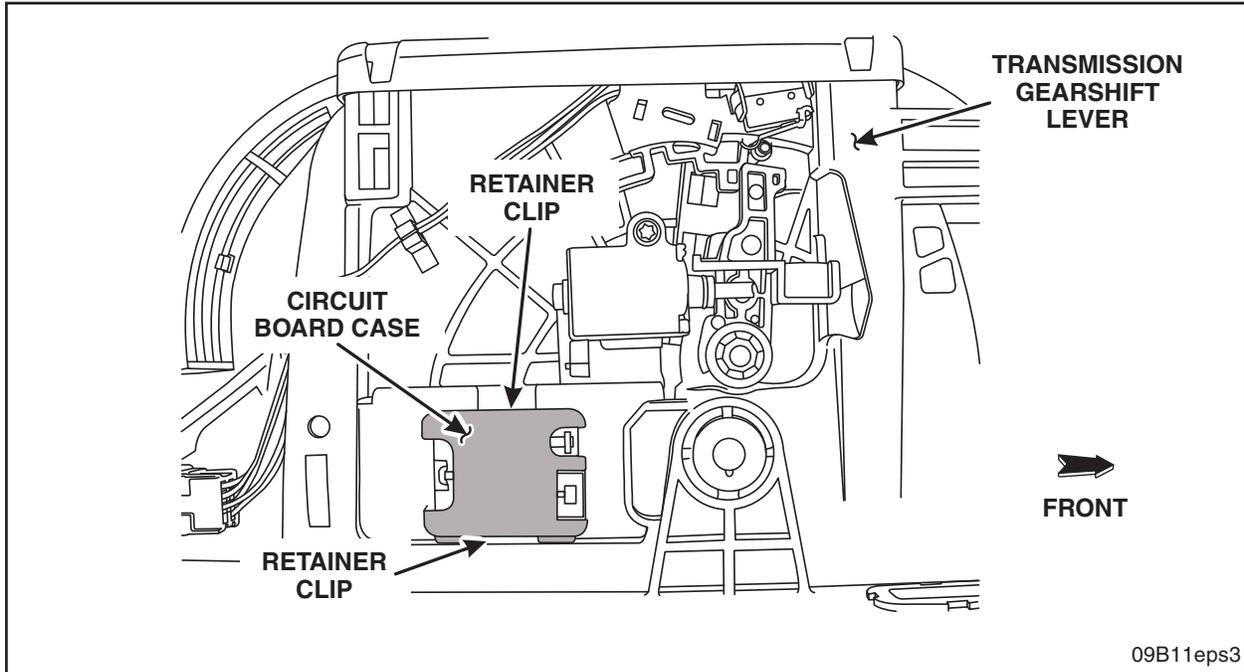

FIGURE 2
3. Remove the circuit board case from the RH side of the transmission gearshift lever by releasing the two retainer clips. See Figure 2.